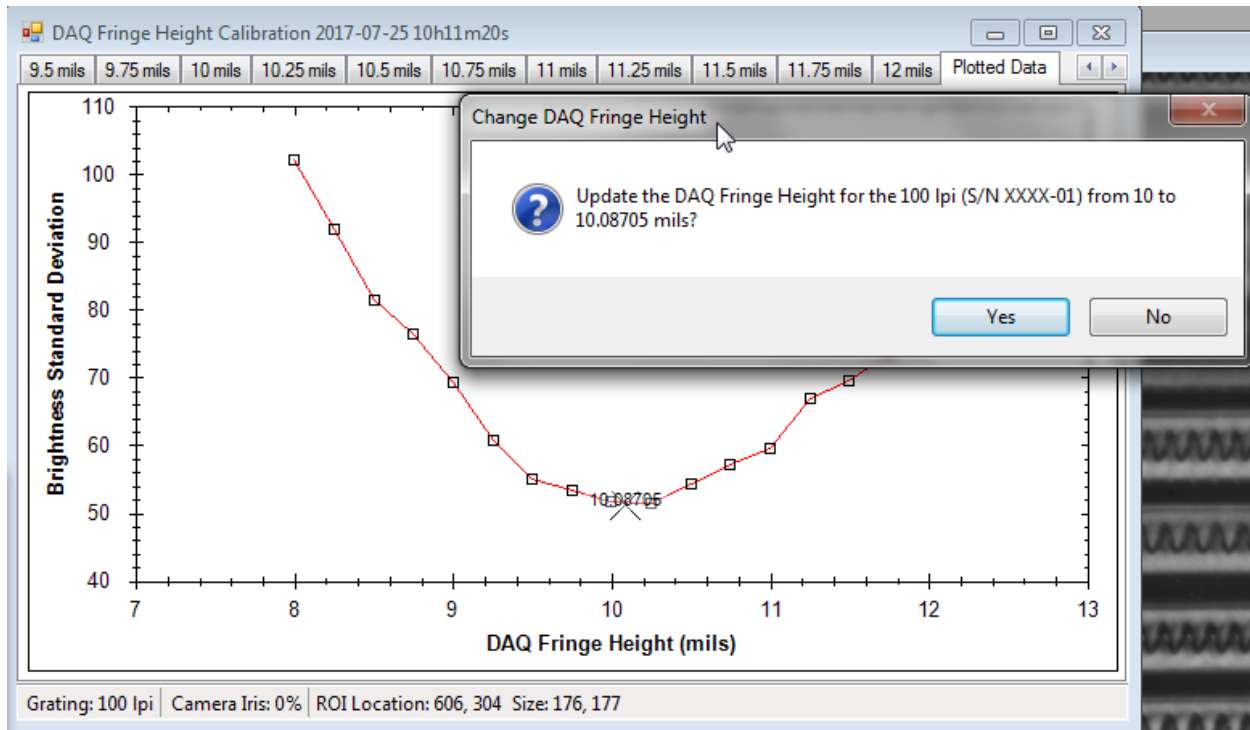

Figure 2.31 DAQ Fringe Height Cal Dialog
3. Right click to select **Start Calibration...** from the Camera window context menu. A series of images is taken with different step heights to determine the best calibrated phase step distance, or **DAQ Fringe Height**. While the images are being taken a dialog (see **Figure 2.31**) pops up showing the captured images and a plot of the intensity standard deviation for each step height trial.